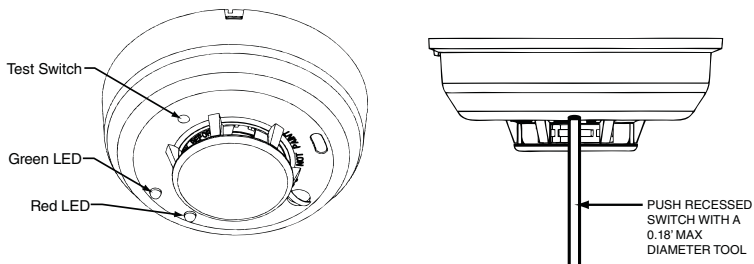

Figure 6: Recessed Test Switch Opening
1. A recessed test switch is located on the detector housing (see Figure 6).